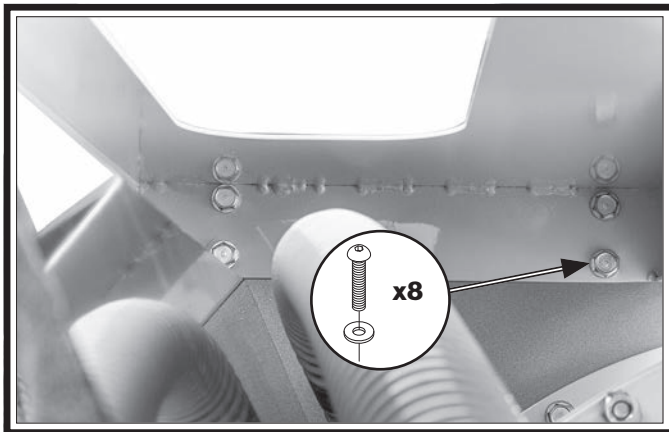

Figure 11. Housing assembly secured to side panel.
- Attach housing assembly to side panels with (8) $\frac{5}{16}$ "-18 x $\frac{3}{4}$ " button head cap screws and $\frac{5}{16}$ " flat washers (see **Figure 11**).